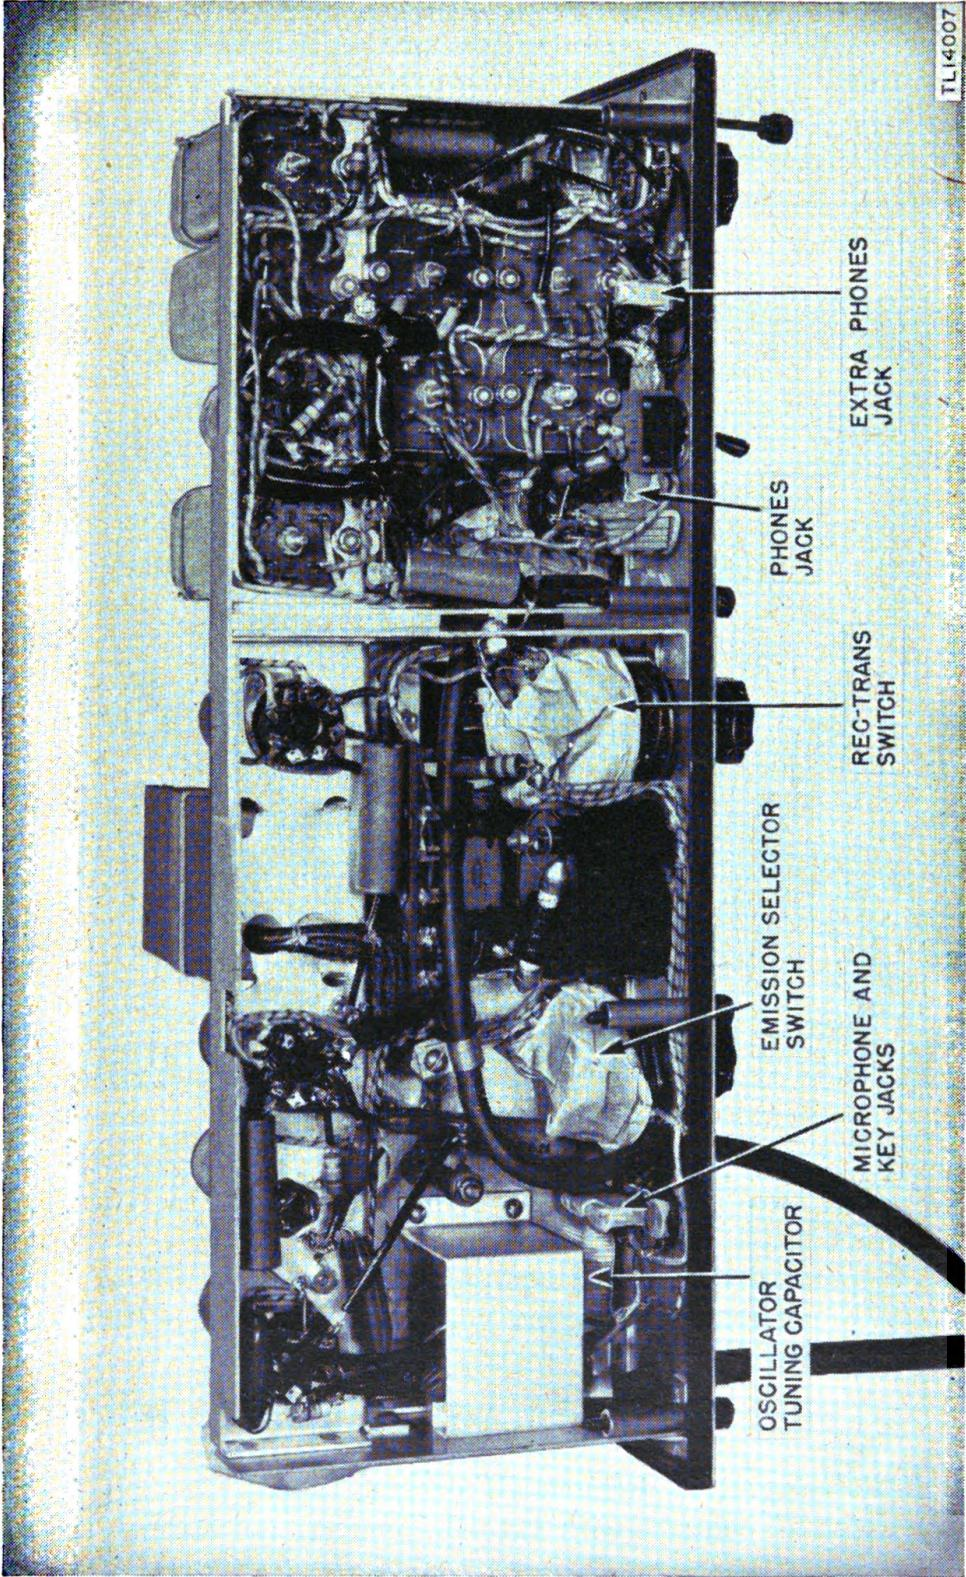

FIGURE 36.—Radio receiver and transmitter BC-474-()—bottom interior view of chassis showing method of masking parts.
b. Disassembly.—(1) Release the catches and open the cover.
(2) Loosen the two knurled nuts holding the stays to the case.
(3) Loosen the eight captive screws holding the front panel to the case; remove the radio set from the case.†
(4) Remove the six screws from the transmitter power plug and slide the bakelite shell back on the cord.
(5) Clean all dirt, oil, dust, rust, grease, fungus, etc., from the equipment to be processed.
c. Masking.—Cover the following parts with masking tape as shown in figures 36 and 37.
(1) EXTRA PHONES jack (fig. 36).
(2) Sleeve opening and contacts of PHONES jack (fig. 36).
(3) Wafers on REC-TRANS switch (fig. 36).
(4) EMISSION SELECTOR switch (fig. 36).
(5) Microphone and key jacks (fig. 36).
(6) Gears of oscillator tuning capacitor (fig. 36).